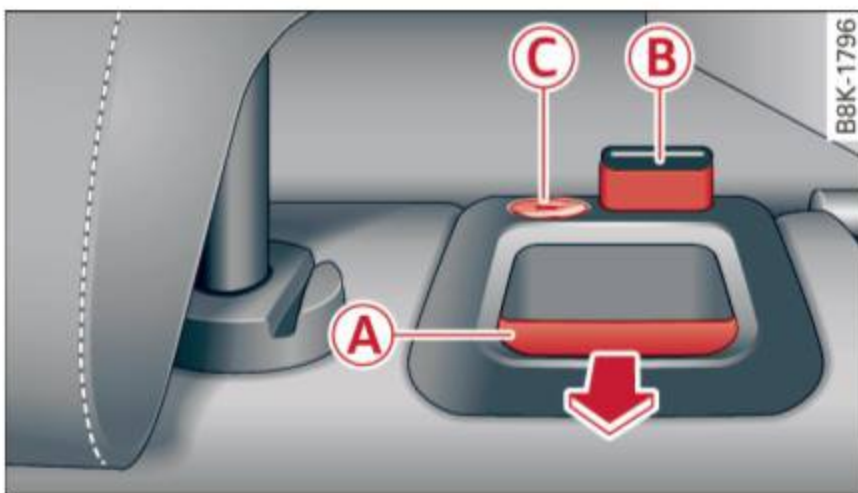

Fig. 67 Backrest: release lever, securing knob and latch
- ▶ Pull the release lever **(A)** ⇒ *fig. 67* in the direction of the arrow to fold the backrest forward.
You can lock the backrest when it is latched in place using the mechanical key ⇒ *page 31* **(C)** ⇒ *fig. 67*. This prevents any access to the luggage compartment from the vehicle interior.